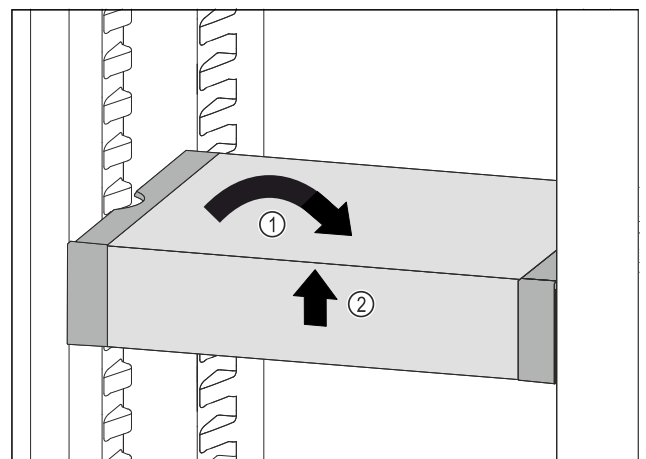

Fig. 115
- ▶ Set VarioSafe straight. Fig. 115 (1)
- ▶ Lift VarioSafe at the front. *Fig. 115 (2)*